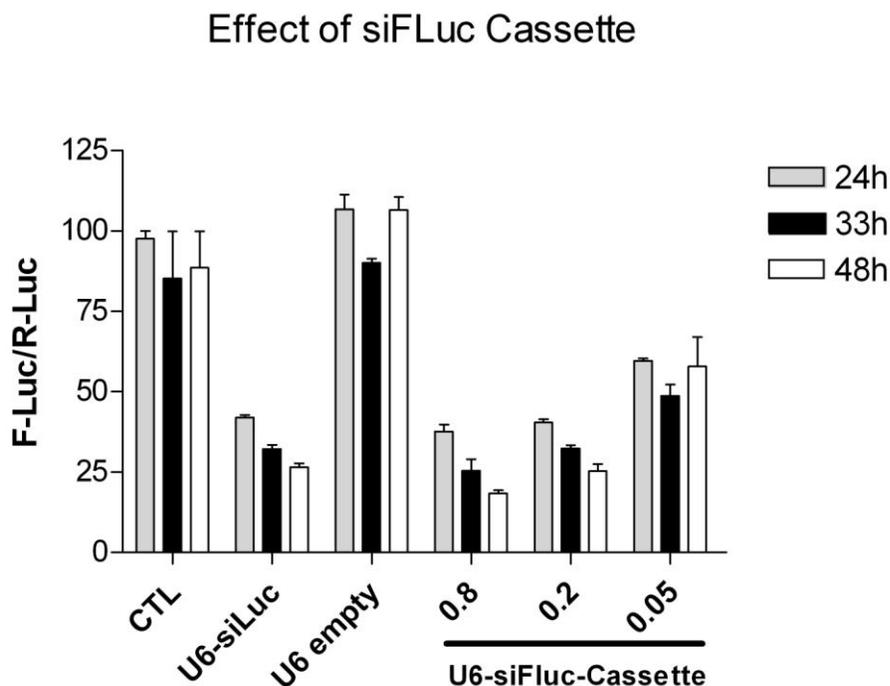

Figure 1.
8. Typical inhibition of Firefly luciferase by siFLuc cassette is about 70% (Figure 1).